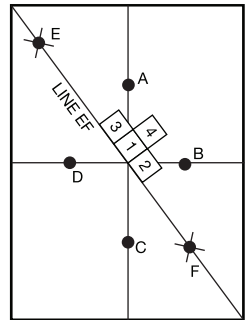

Figure 6
• **OPTIONAL DIAGONAL LAYOUT:** From the intersecting lines, measure 4' along each line toward all walls and mark the points established (Points A, B, C, D, Figure 6). Using a radius of 4', establish point E by scribing intersecting arcs from points A and D, and point F by scribing similar arcs from points C and B. Snap a chalk line (line EF) across points E and F and extend to nearest wall. This establishes a 45° angle starting line.
• Place the first tiles on lines C and D at 90° angle point (Figure 8; Figure 6 for Diagonal Layout). Correct positioning is essential in order to ensure exact alignment on the following parquet.